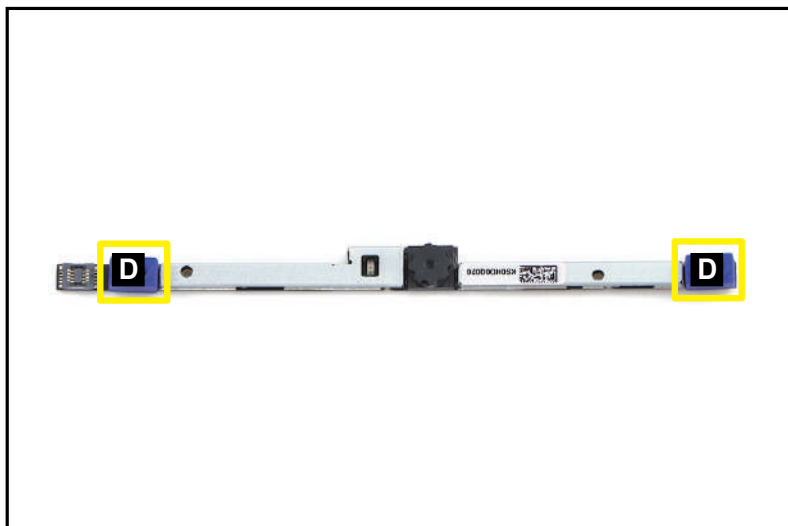

Figure 3-85. Camera Module Removal
- Carefully detach the microphone rubbers (D) from the camera module (Figure 3-85).